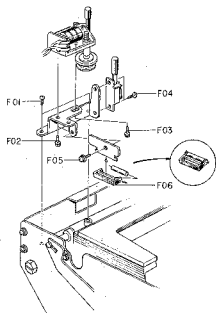

Fig. 3.8 Up to serial No. A206.7 05000
Refer to Fig. 3.8. Remove front panel ass'y referring to item 3.5. Remove F01 through F06, then counter ass'y, memory switch and reed switch.